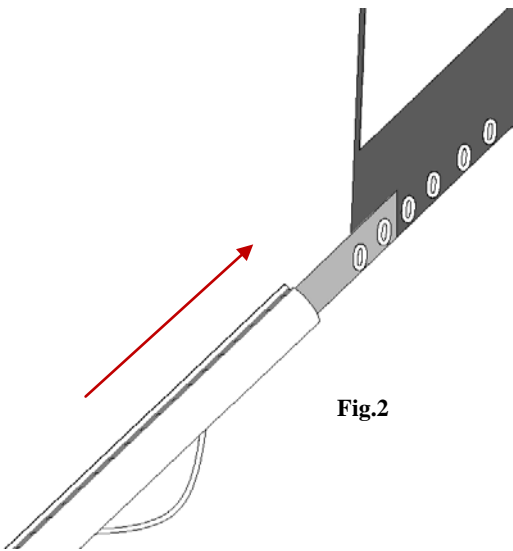

Fig.2
4. Two people are suggested for this step. While the screen remains laying on a flat surface, one person guides the support bars, while another slowly and carefully slide sit over the material as shown in **Fig. 2** and **3**.